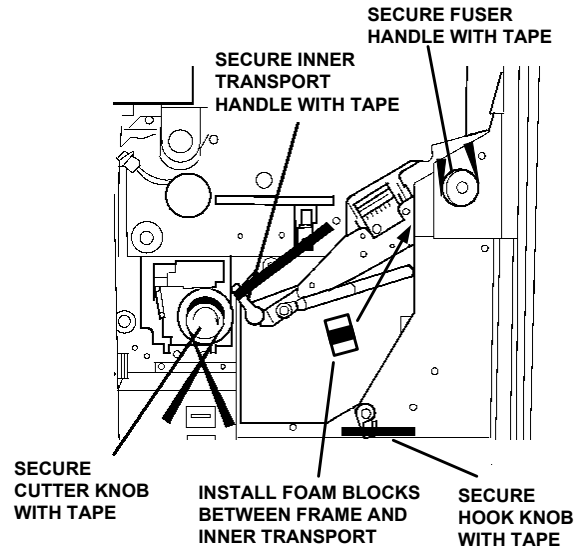

Figure 12
30. Secure the Toner Cartridge Locking Mechanism and the Toner Cartridge with tape (Figure 12).